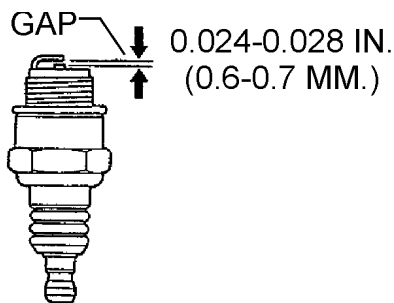

Figure 26. Spark Plug Gap
3. Remove and clean the spark plug (Figure 26), then adjust the spark gap to 0.028~0.031 inch (0.6~0.7 mm). This unit has electronic ignition, which requires no adjustments.